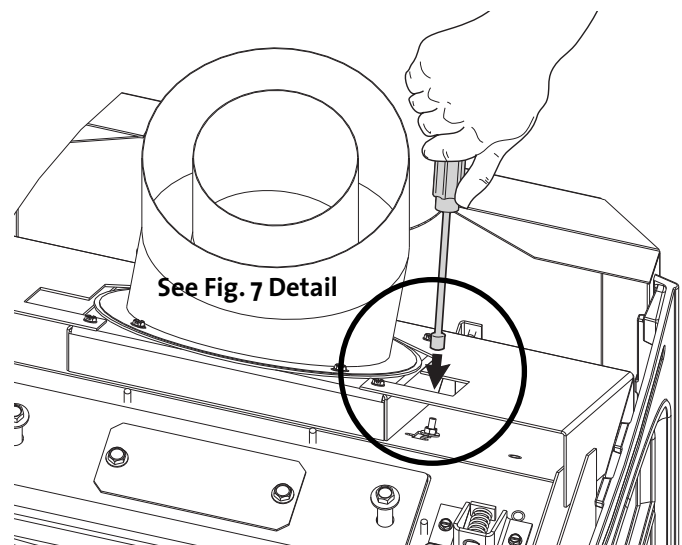

Figure 6.
3. Locate the pivot pin at the right side of the firebox top. Use a 7 mm or 9/32 nut driver to loosen the nut on the pivot pin and then push the pin to the left to disengage it from the current factory-set position. Move the pin forward and into the slot appropriate for your specific vent configuration. See figs. 6 and 7.